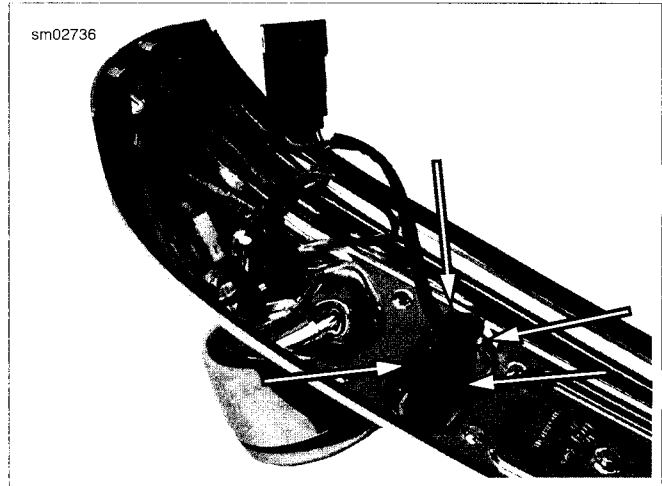

Figure 7-77. Indicator Lamp Assembly: FXCWC
4. Figure 7-77 Spread tabs apart and remove indicator lamp assembly with harness.
1. See Figure 7-77. Install indicator lamp assembly into console. Make sure clips are fully engaged to secure assembly in place.